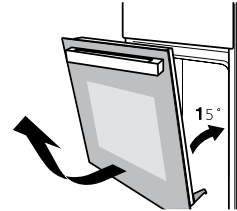

Figure 2
2. Close the door to an angle approximately  $15^{\circ}$ . Lift up and slowly pull the door out from the oven. (Figure 2)